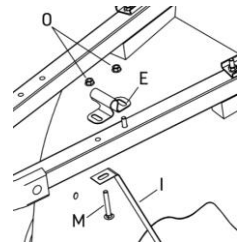

Fig. 6
10. Attach the axle bracket (E) to the bottom of the handle using 8 x 75 mm bolts pushed through the hole closest to the tray (Fig. 6).
11. Push the second bolt through the hole in the bottom tray brace (I) and then through the handle (using the hole closest to the wheel guard) and finally through the axle bracket (Fig. 6).
12. Attach loosely with lock fasteners and nuts (Fig. 6).